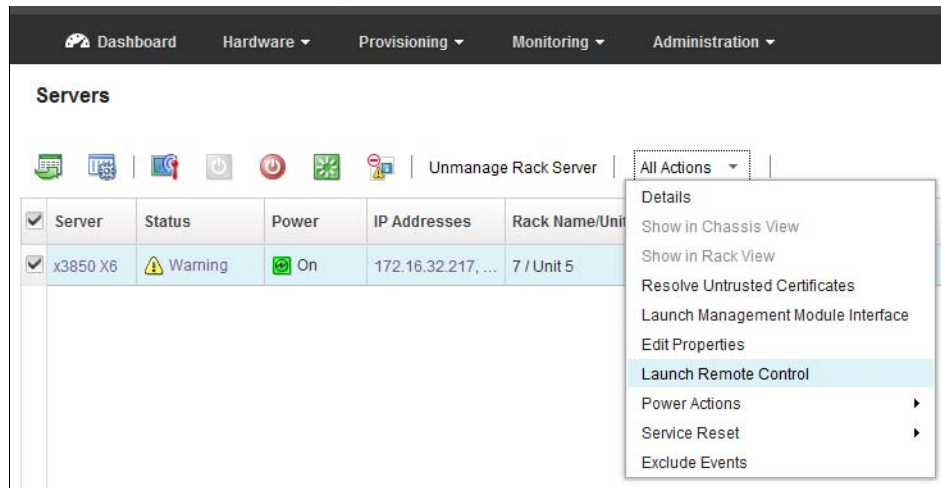

Figure 7-13 Launch Remote Control
1. Select **Hardware** → **All Servers**, select the server from the list, and click **All Actions** → **Launch Remote Control**, as shown in Figure 7-13 on page 254.